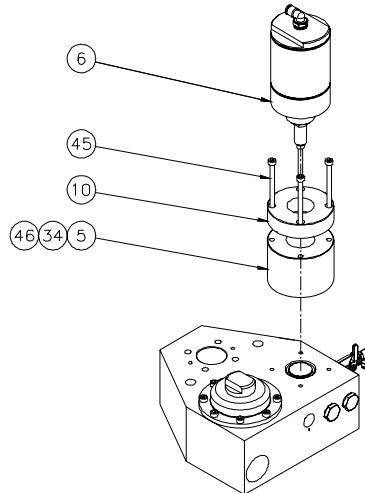

Figure 4-4. Regulator Section
8. Reassemble the Regulator section, referring to Figure 4-4.
- a. Tighten the M6 x 90 SHCS (45) to 12 N\*m (106 in\*lbs).